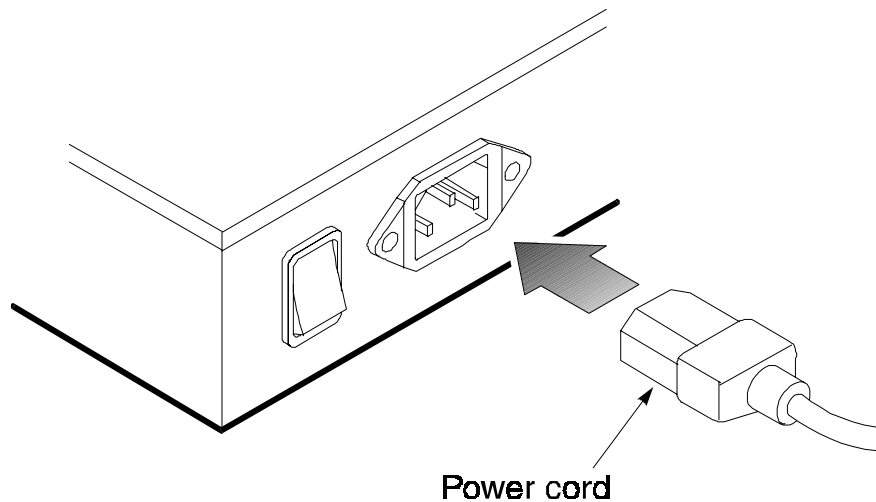

Figure 2-5. Connecting the Power Cord to the Switch
1. Connect the power cord to the switch and to a grounded three-prong wall outlet (Figure 2-5). See Appendix A, “Power Cord Set Requirements,” for more information regarding specific international power cord requirements.